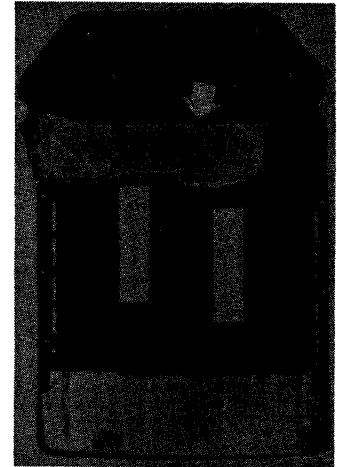
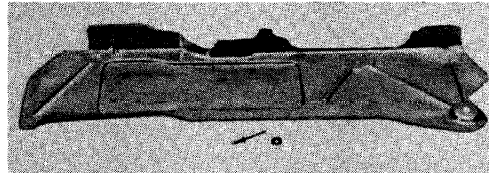

Figure 1
Figure 2
**Concern:** Aluminum air guide plate cracked and/or rivets loose (arrow in Figure 1).
**Vehicle Information:** From Model Year '92 (N), the aluminum air guide plate is attached to the engine protection plate with steel rivets and large washers (formerly aluminum rivets).
**Repair Information:** A repair kit is available to replace cracked or loose aluminum plates on Carrera 2/4's prior to model year 1992 (N) (Figure 2). It is no longer necessary to replace the complete engine protection plate.